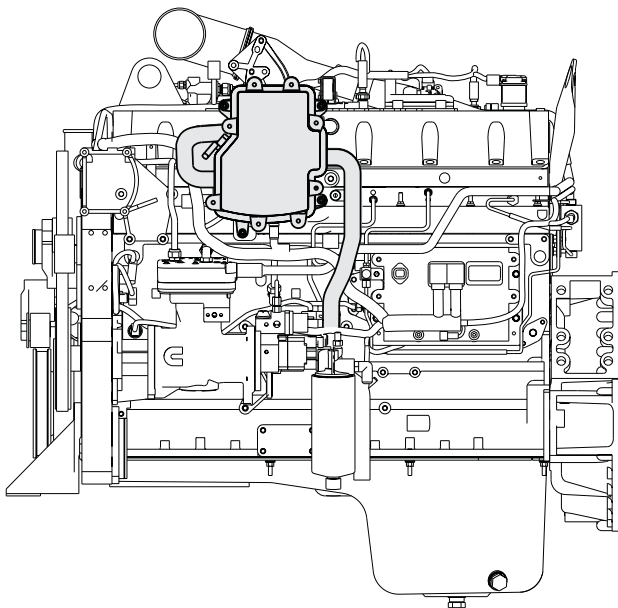

Figure 1. Location of Crankcase Breather Filter.
**3.1 CUMMINS Crankcase Breather Filter.** The filter for the Crankcase Breather is mounted on the fuel pump side of the engine. See Figure 1.